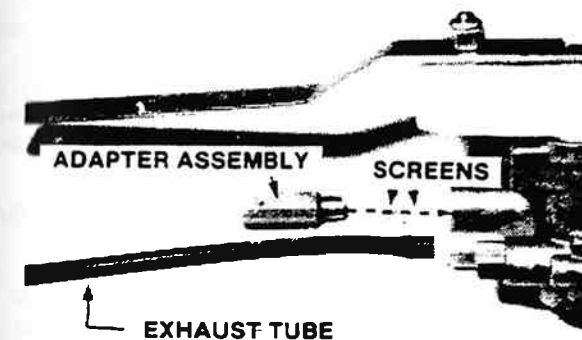

Figure 12-8. Height Control Valve Adapter and Screens.
4. Disconnect the air line (inlet from air tank) and remove the adapter assembly (figure 12-8) and discard.